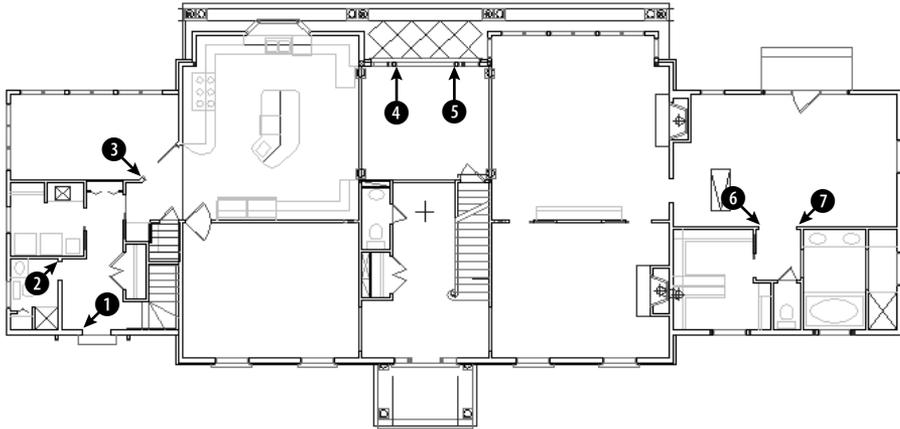

Figure 18-10: The floor plan of the house needs some doors and a new toilet.
2. Save the file as `ab18-03.dwg` in your AutoCAD Bible folder. This is the floor plan of the first floor of a house, as shown in Figure 18-10. Many of the doors and a toilet need to be inserted. OSNAP should be on. Set running object snaps for endpoint and midpoint. The current layer is Door.
PRotate]: Use the Endpoint object snap to pick ① in Figure 18-10.
6. Repeat the INSERT command. The Insert dialog box already shows the DOOR block. Click OK. Follow the prompts. You'll probably want to use Zoom Window to zoom into the area of ② in Figure 18-10.
PRotate]: Pick ② in Figure 18-10.
7. If you zoomed in for the previous step, return to the previous view using Zoom Previous. Zoom in to the area around ③ in Figure 18-10. Choose Insert Block from the Draw toolbar. Click OK. Follow the prompts:
PRotate]: Pick ③ in Figure 18-10.
- Use Zoom Dynamic to zoom in to the area around 4 and 5 in Figure 18-10. Choose Insert Block from the Draw toolbar. Click OK. Follow the prompts:
PRotate]: Pick 4 in Figure 18-10.
- Use Zoom Dynamic to zoom in on the area around 6 and 7 in Figure 18-10. Start the INSERT command and click OK. Follow the prompts:
PRotate]: Pick 6 in Figure 18-10.
PRotate]: Pick 7 in Figure 18-10.